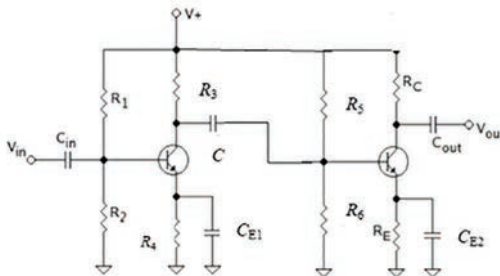

Figure 6.44 Ch 6: No. 20, self-test
20. For the BJT two-stage amplifier (CE) of Figure 6.44, determine the total overall voltage gain A_{VT} , if R_1 is 10 k Ω , R_2 is 3 k Ω , R_3 is 2.5 k Ω , R_4 is 0.5 k Ω , R_5 is 15 k Ω , R_6 is 2 k Ω , R_7 is 3 k Ω , R_8 is 0.8 k Ω , R_L is 8 k Ω , V_{CC} is 15 V, and h_{fe} is 100 for both BJTs. (Assuming a silicon BJT.)